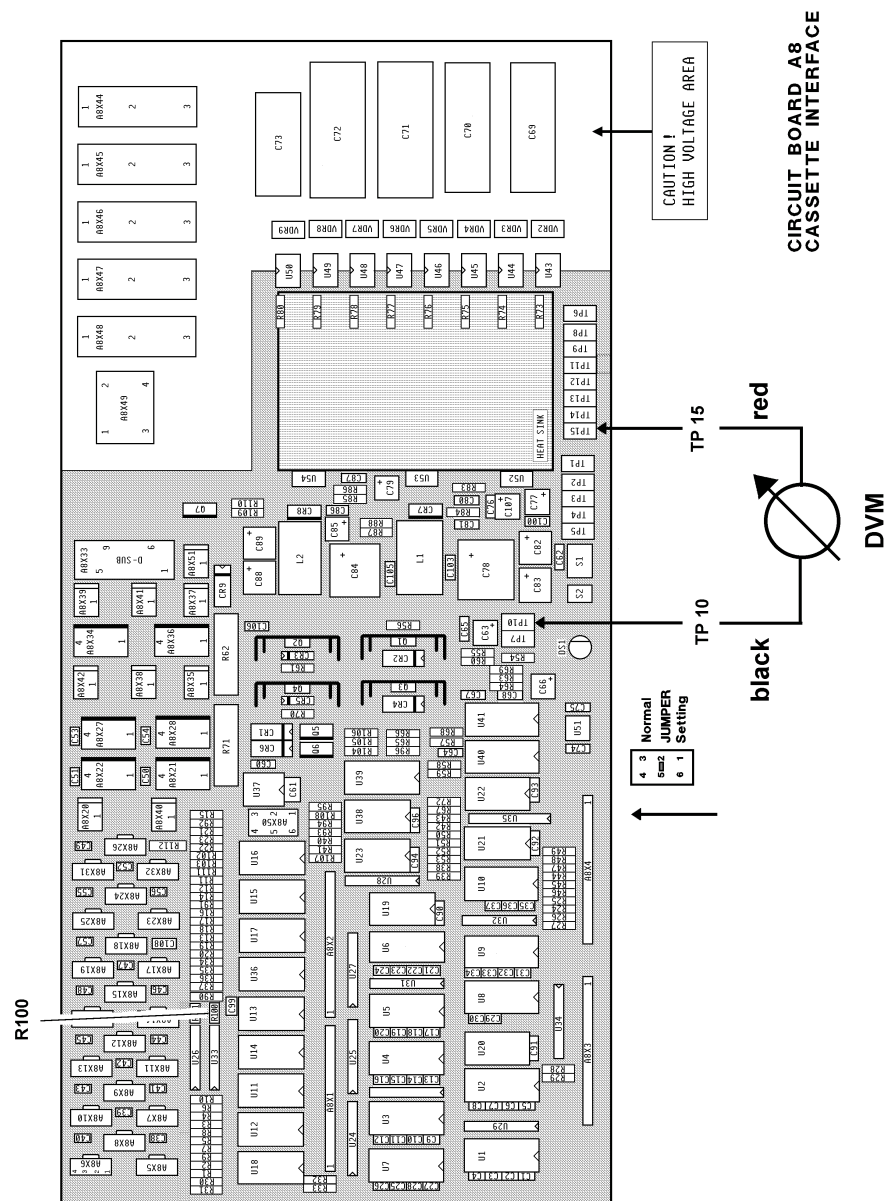

figure 1-10
- Connect the red lead of the DVM to TP 15 on PCB A8. See figure 1-10.